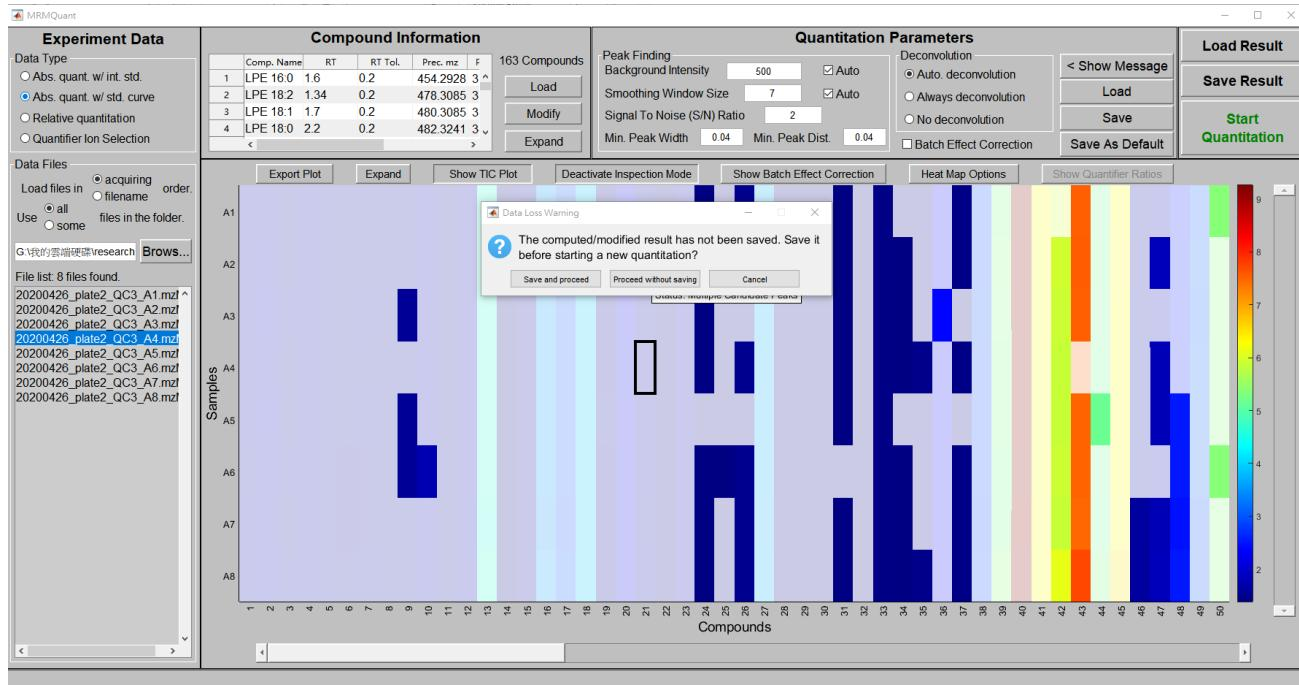

Figure 59. A question window pops up when a new data type is selected whereas the quantitation result has not been saved.
(4) quantitation parameters. If an existing quantitation is unsaved and the user attempt to change any of the items, a question window will pop up to inquiry whether the user intends to (1) save and proceed, (2) proceed without saving, or (3) cancel the change(s), as shown in the Figure 59. After that, the user can proceed to input required data and perform a new quantitation.